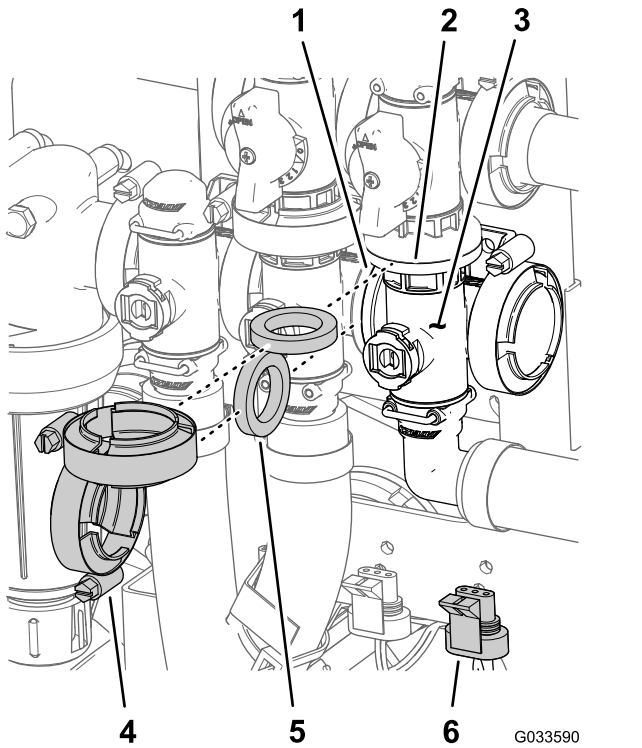

Figure 114
1. Align the flange of the master-boom-valve manifold, a gasket, and the flange of the master-boom bypass valve (Figure 114).
2. Assemble the master-boom valve manifold, gasket, and master-boom bypass valve with a flange clamp tightened hand tight (Figure 114).
3. Align the flange of the master-boom-valve manifold, a gasket, and the agitation-valve manifold (Figure 114).
4. Assemble the master-boom-valve manifold, gasket, and agitation-valve manifold with a flange clamp and tighten by hand (Figure 114)
7. Assemble the agitation valve to the valve mount with the flanged-head bolt and flanged locknut (Figure 114) that you removed in step 3 of Removing the Master Boom Manifold Valve (page 75) and torque the nut and bolt to 10 to 12 N·m (90 to 110 in-lb).